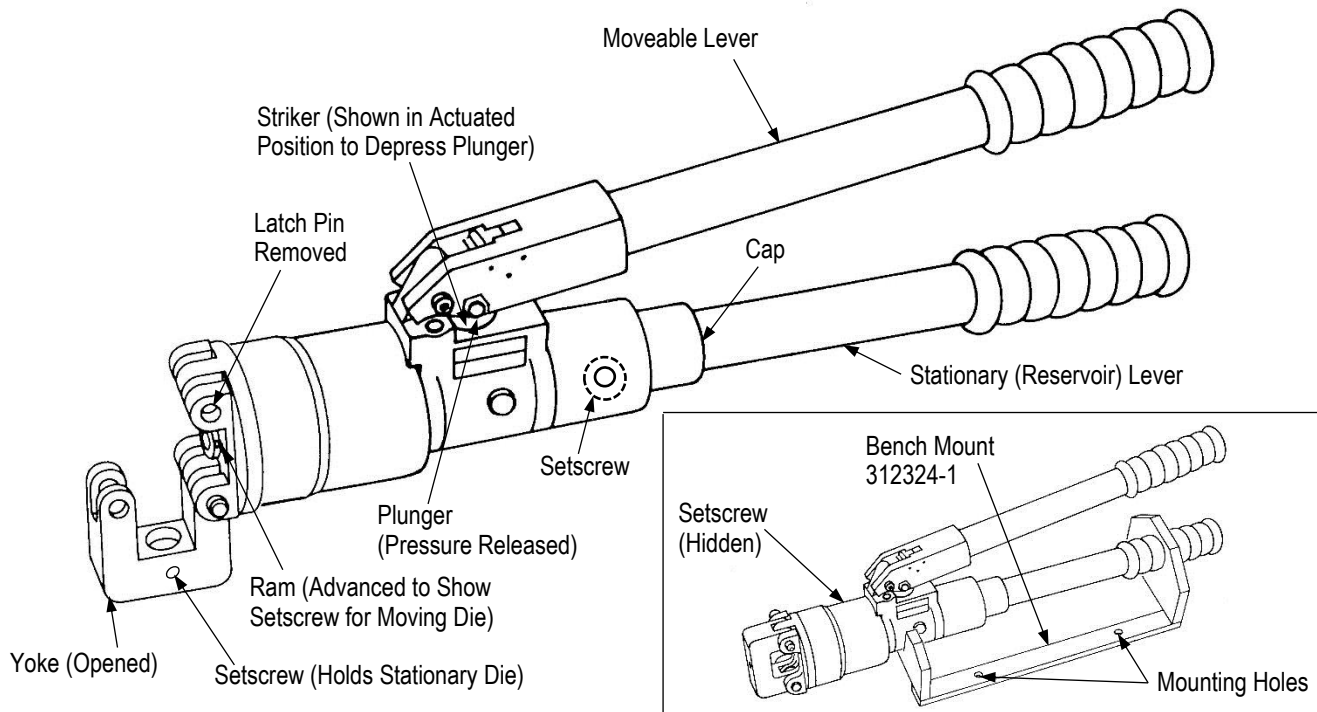

Figure 1
2. DESCRIPTION (Figure 1)
The tool may be bench mounted by sliding it into Bench Mount 312324-1 (purchased separately) and securing it tightly with the mount setscrew. The mount has four holes for securing it to a bench (see Figure 1, inset).
1. Pull out the latch pin and open the yoke (reference Figure 1).
4. Loosen the setscrew in cap of the stationary (reservoir) lever (see Figure 1).